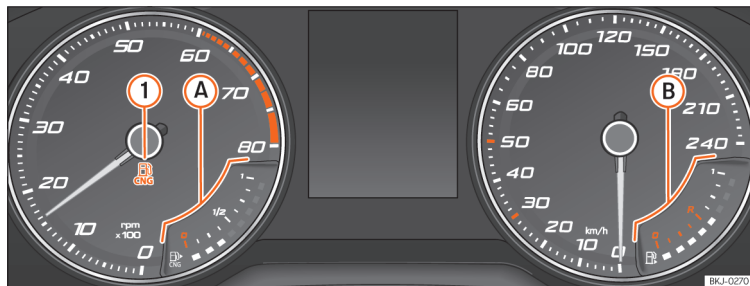

Fig. 67 Analogue instrument panel: natural gas gauge
It lights up green »»» Fig. 67 ①